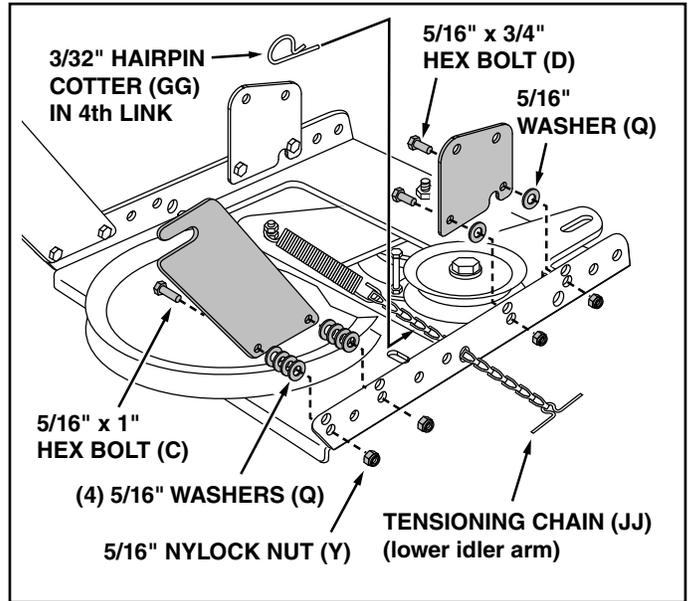

FIGURE 30
STEP 30: (SEE FIGURE 30)
- Attach the two rear pulley frame brackets (10) to the inside of the clutch/idler assembly using two 5/16" x 1" hex bolts (C), eight 5/16" washers (Q), and two 5/16" nylock nuts (Y) for each bracket.
- Attach the two front pulley frame brackets to the inside of the clutch/idler assembly using two 5/16" x 3/4" hex bolts (D), 5/16" washers (Q), and 5/16" nylock nuts (Y) for each bracket. Add extra washers if needed.
- Install a 3/32" hairpin cotter (GG) in the 4th link of the chain.